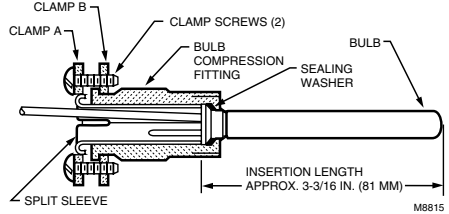
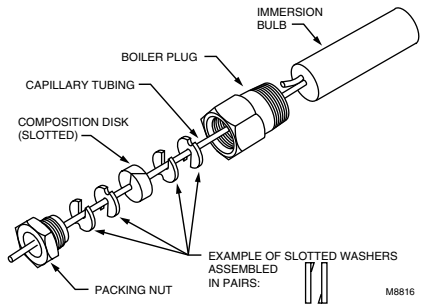

Fig. 3. Bulb compression fitting.
Fig. 4. Capillary compression fitting.
Depending on model and installation requirements, install the temperature sensing bulb either in an immersion well (see Fig. 2) that extends into the boiler or tank, or directly immerse the temperature sensing bulb in the liquid. For installations not using a well, secure the bulb with a bulb compression fitting (see Fig. 3), or a capillary compression fitting (see Fig. 4). Order the well or the fitting separately.
- 4 Place composition disc and 4 slotted brass washers on tubing in the order shown in Fig. 4. Turn brass washers so that slots are 180 degrees to each other.